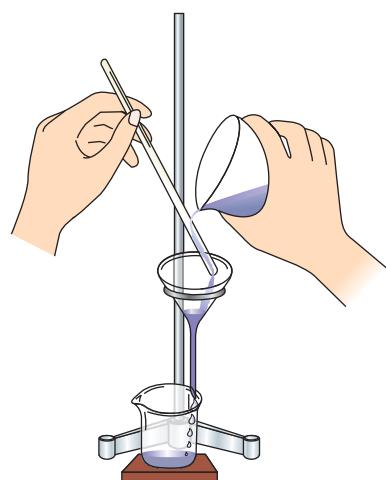

Fig. 2.11 :Process of filtration
- Add more water so that the stem of the funnel is filled with water. If the filter paper is fitted correctly, the filter paper will support a column of water in the funnel stem. The weight of this column of water produces a mild suction that expedites filtration (Fig. 2.11).
- (ii) For separating the solid from the liquid, filtration should be done in two stages. First, almost whole of the liquid should be poured out carefully down a stirring rod (Fig. 2.11). When only a few millilitres of the mixture remain in the beaker, it should be poured into the funnel after swirling the beaker gently. The sides of the beaker are then rinsed with a stream of water and the content is again poured into the funnel. Rinsing is repeated till the beaker and the stirring rod is clean. It is better to pour down a solid liquid mixture along a glass rod (Fig. 2.11). However, care should be taken that paper is not punched by the stirring rod.